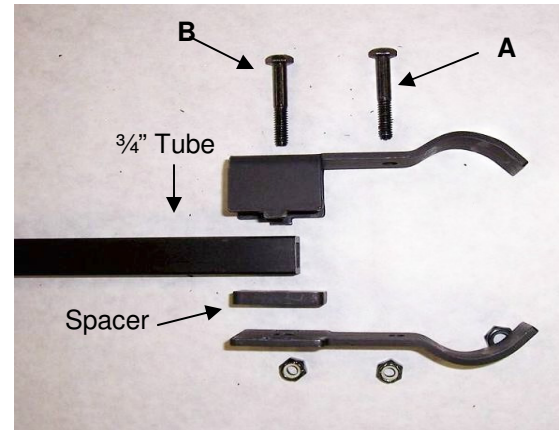

Fig. 2
4. Insert a 1/4" x 1 3/4" bolt through the half clamps, 3/4" tube and spacer so there is a half clamp on each side of the tube. See Fig. 2.